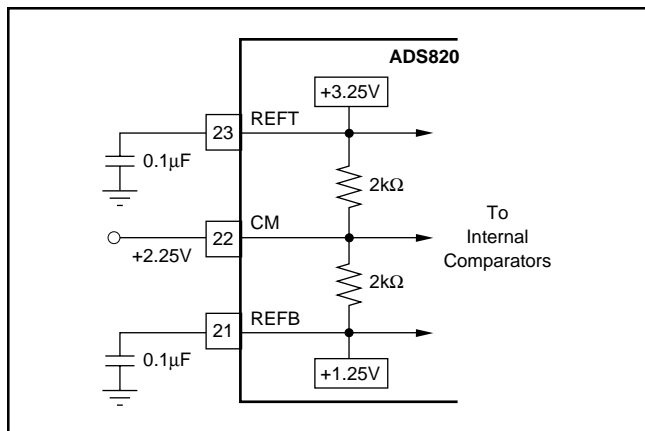

FIGURE 3. Internal Reference Structure.
The analog input of the ADS820 can be configured in various ways and driven with different circuits, depending on the nature of the signal and the level of performance desired. The ADS820 has an internal reference that sets the full-scale input range of the A/D converter. The differential input range has each input centered around the common-mode of +2.25V, with each of the two inputs having a full-scale range of +1.25V to +3.25V. Since each input is 2Vp-p and 180° out-of-phase with the other, a 4V differential input signal to the quantizer results. As shown in Figure 3, the positive full-scale reference (REFT) and the negative full-scale reference (REFB) are brought out for external bypassing. In addition, the common-mode voltage (CM) may be used as a reference to provide the appropriate offset for the driving circuitry. However, care must be taken not to appreciably load this reference node. For more information regarding external references, single-ended inputs, and ADS820 drive circuits, refer to the applications section.